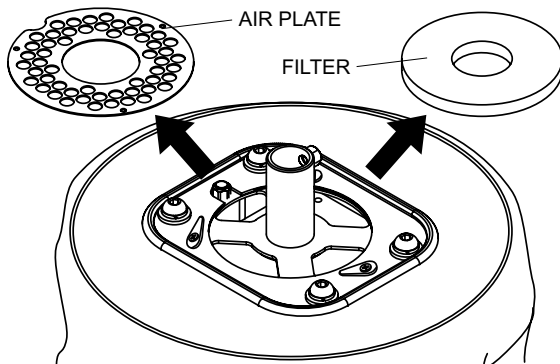

Figure 36. Filter Removal
4. Remove the air plate and filter. See Figure 36.